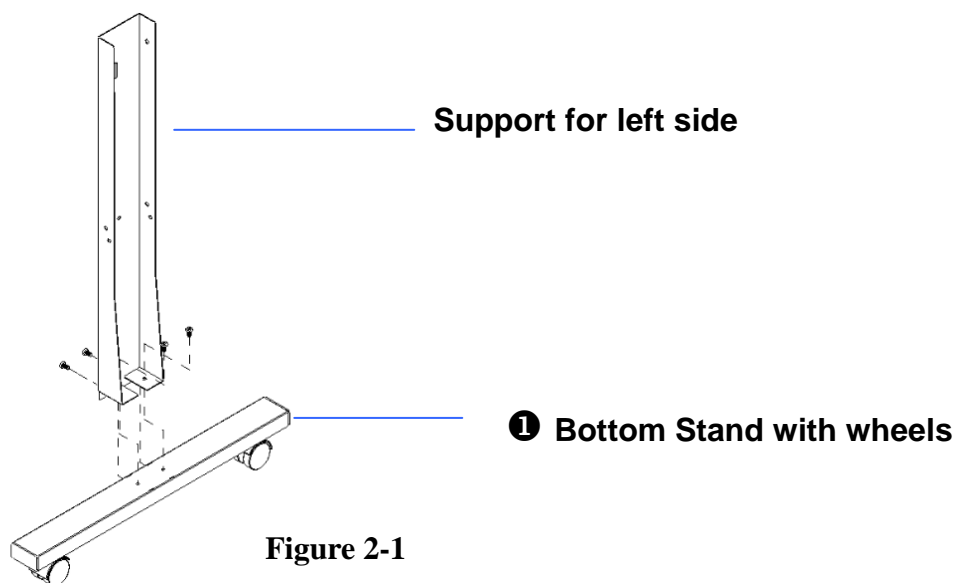

Figure 2-1
Position the support for the left side perpendicularly to part ❶ and put the screws into the holes and tighten them to form a left side T-stand (Figure 2-1). Repeat the same steps with the support for the right side.